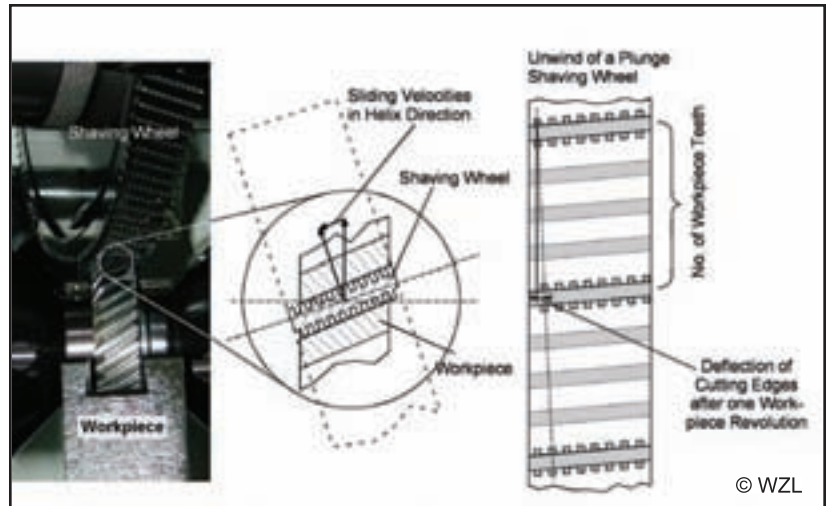

Figure 1—Principle of gear shaving.
**Fundamentals of gear shaving.** Gear shaving is a soft finishing process for gears using a geometrically defined cutting edge. The kinematics are identical to a non-parallel-axis gear drive. The tool is a gear with radial-interrupted flanks and with a different helix angle than the workpiece (see Fig. 1). The tool and the workpiece axis are therefore not parallel, which creates the so-called crossed-axis angle  $\Sigma$ . In industrial practice, the values for this crossed-axis angle range between 10–15°. In some exceptions, crossed-axis angles between 2–20° can be applied (Ref. 1).